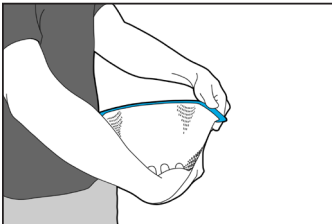

Fig. 1
2. To pre-stretch a U-Frame or S-Frame, hold the mask against your hip with one hand and stretch the mask about 15 cm (6 in) with your hand (Fig. 1).